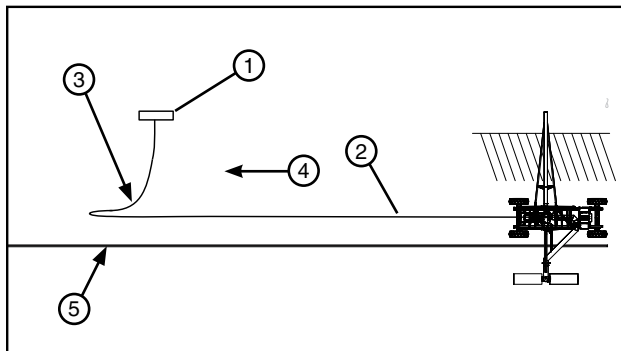

Figure 68-1 1. Power Pedestal
- (b) Position the electric cord far enough away from the hose, so that the hose will not drag over it. To prevent interference between the electric cord, cart tires and hose, bury the electric cord in the area where interference will occur or when applicable, position the electric cord over the top of hose. See Figure 68-1.